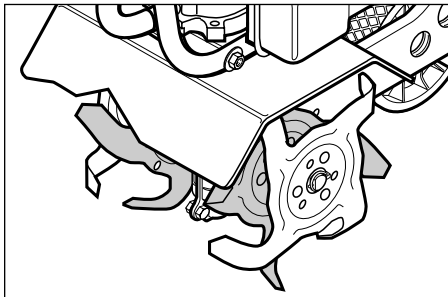

Figure 18: Stony soil tine configuration.
4. Reinstall the two outer tine sections on the sides from which they were removed (Figure 18).